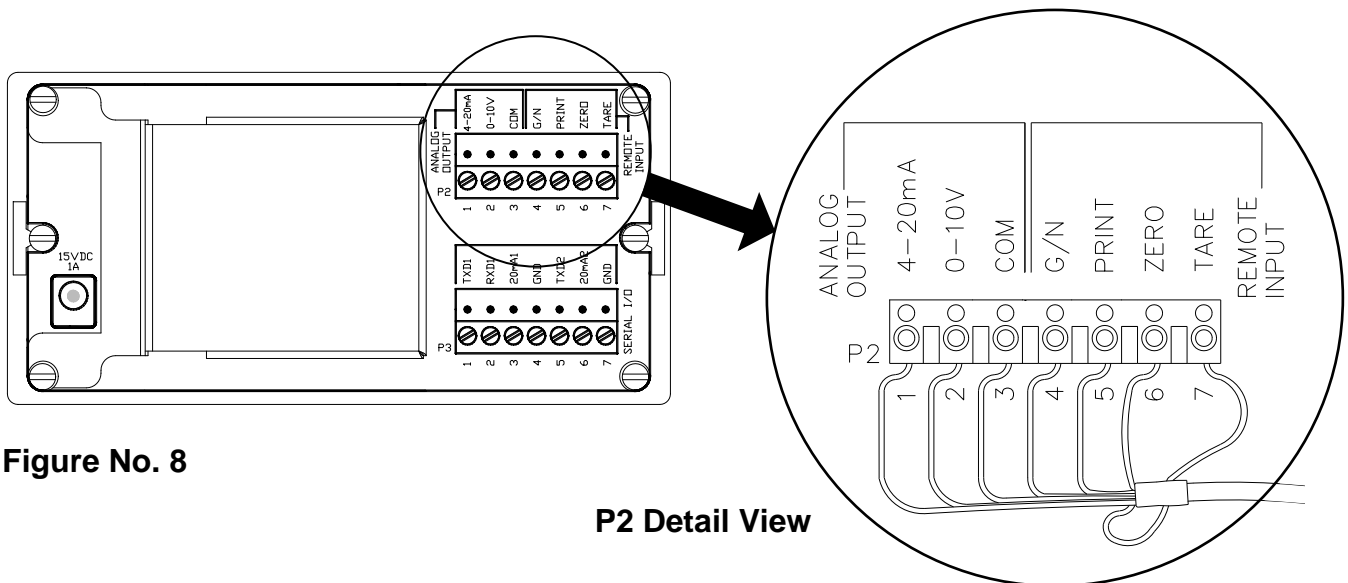

Figure No. 8
Included with the I/O are 4 programmable inputs that may be used to remotely (up to 100 feet) initiate various functions within the indicator. These inputs are accessed via a terminal block (P2) on the rear panel of the indicator. See Figure No. 8.
1. The REMOTE INPUT wires are connected to the P2 terminal block on the rear panel of the indicator. Refer to Figure No. 8 for the location of P2.
1. The ANALOG OUTPUT wires are connected to the P2 terminal block on the rear panel of the indicator. Refer to Figure No. 8 for the location of P2.